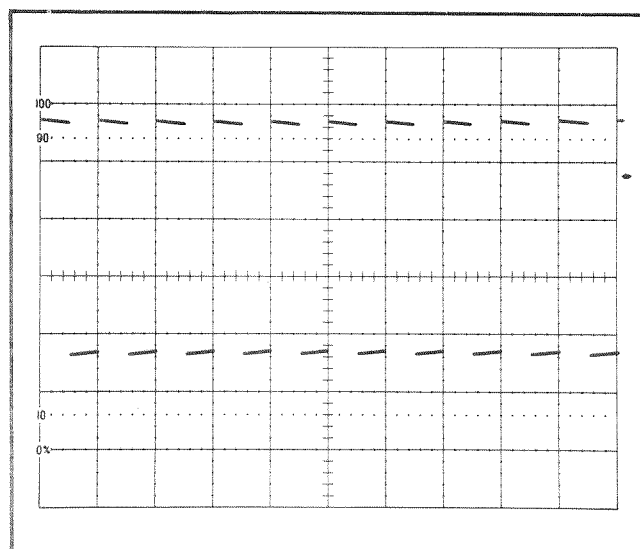

Fig. 2-3. Display showing correct calibration of 7904 Horizontal Deflection System.
23. The center eight complete cycles of the displayed waveform should occupy the center eight graticule divisions within 0.25 division. Note the exact number of horizontal divisions occupied by the center eight complete cycles of the waveform (see Fig. 2-3).
26. The center eight complete cycles of the displayed waveform should occupy the center eight graticule divisions within 0.25 division. Note the exact number of horizontal divisions occupied by the center eight complete cycles of the waveform (see Fig. 2-3).
28. Press the ALT button of the HORIZONTAL MODE switch. Two traces should be presented on the CRT. If the display overlaps, adjust the VERT TRACE SEPARATION (B) control to position one trace to the bottom of the graticule area. Turn the sweep rate switches of both time-base units throughout their range. Notice that each time-base unit controls one of the traces independent of the other time-base unit. Also notice that when one of the time-base units is set to a slow sweep rate (below about 50 milliseconds/division), sweep alternation is evident. Only one of the traces is presented on the CRT at a time. Set the sweep rates of both time-base units to 0.5 millisecond/division. Adjust the A INTENSITY control. Notice that it changes the intensity of the trace produced by the A time-base unit only. Likewise, the B INTENSITY control changes the intensity of the trace produced by the B time-base unit only. Return both intensity controls to the desired level.
30. Set the CALIBRATOR switch to 0.4 V. Press the CHOP button of the VERTICAL MODE switch. Four traces should be displayed on the CRT. If not, adjust the position controls of the vertical units and the VERT TRACE SEPARATION (B) control to position the four traces onto the viewing area. Adjust the position controls of the plug-in units to identify which traces are produced from